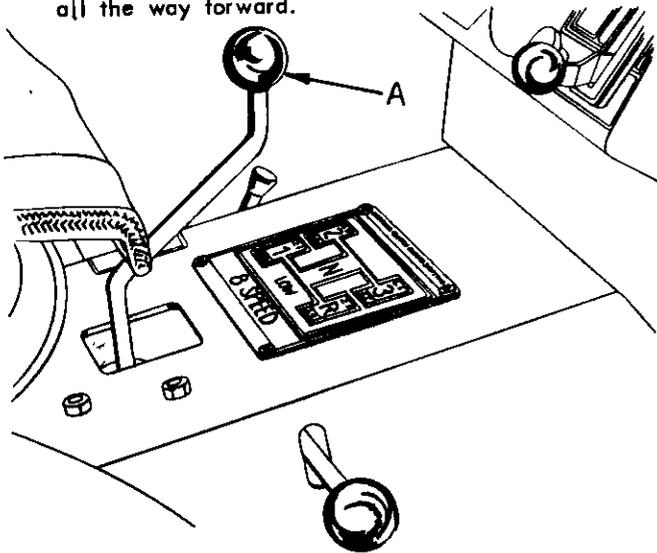

FIG. 5
2. The transaxle (transmission) gear shift lever (A), is located at front, center of seat.
- a. The gear shift lever selects the FORWARD speeds, the NEUTRAL and REVERSE speeds. Refer to Fig. 5.
- a. Transaxle (transmission) gear shift lever (A, Fig. 5), is in NEUTRAL.